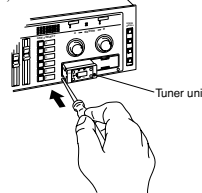

Fig. 2
- Insert a screwdriver having the shaft diameter of 2 to 4 mm or less with shaft length of 30 mm or longer, into the hole under the lower part of the tuner slot as shown. Remove the tuner unit. (Fig. 2)